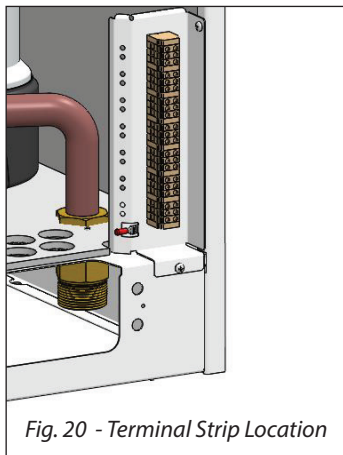

Fig. 20 - Terminal Strip Location
1. Connect the external monitoring device to the line voltage terminals located internally in the lower right corner, as shown in *Fig. 20 on page 33*.